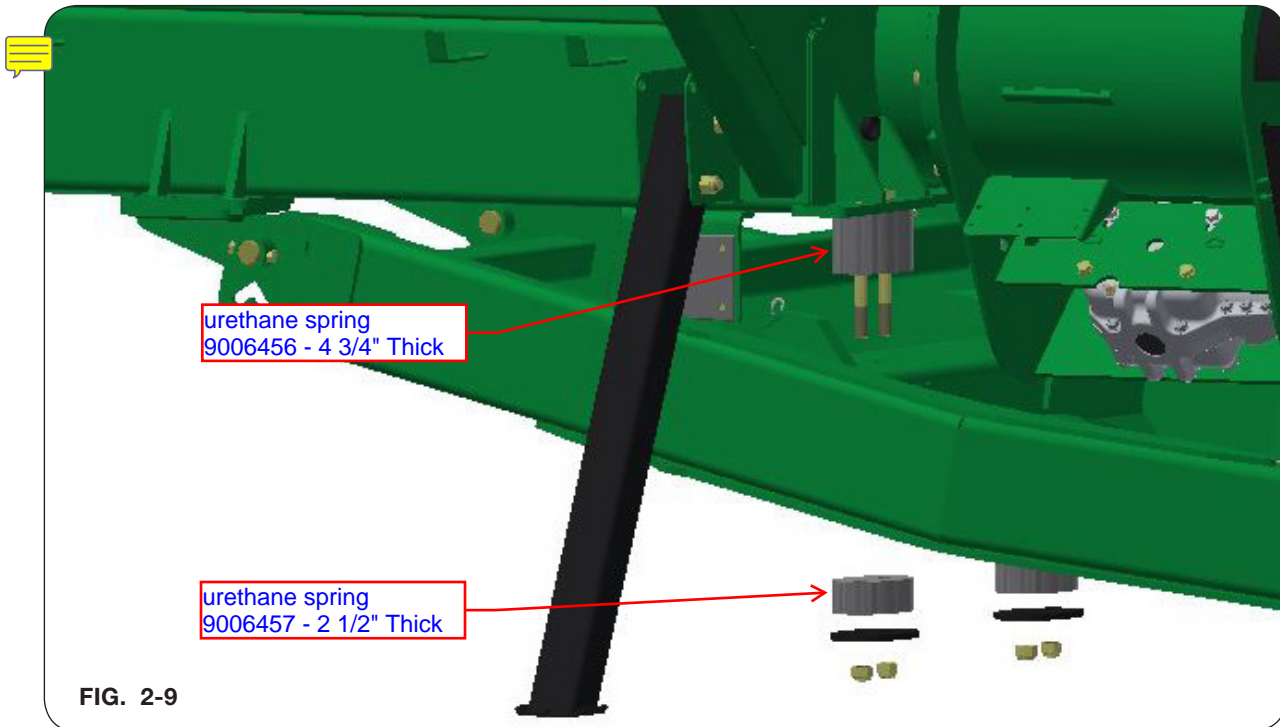

FIG. 2-9
- Place the urethane springs (9006456), and spring retainer plates (271687B) under the tongue weldment and secure to the grain cart with urethane springs (9006457) 1"-8UNC x 10 1/2" capscrews (9390-465) and 1"-8UNC elastic lock nuts (9398-026) (FIG. 2-9). Tighten until rubber bumpers are compressed approximately 1/4".